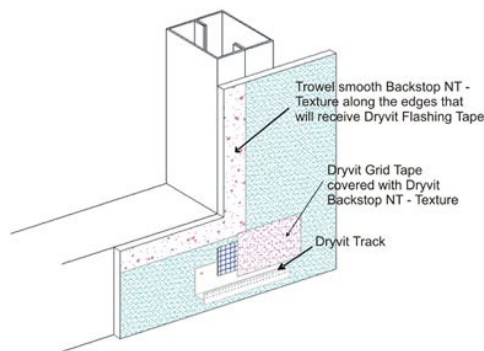

Fig. 18
- 4) While the Backstop NT - Texture is still wet, using a trowel or spatula, smooth out the Backstop NT - Texture around all window and door perimeters and other areas that will later receive Dryvit Flashing Tape - Figure 18.
- 4) While Backstop NT - Texture is still wet, using a trowel or spatula, smooth out the Backstop NT - Texture around all window and door perimeters and other areas that will later receive Dryvit Flashing Tape – Figure 18.